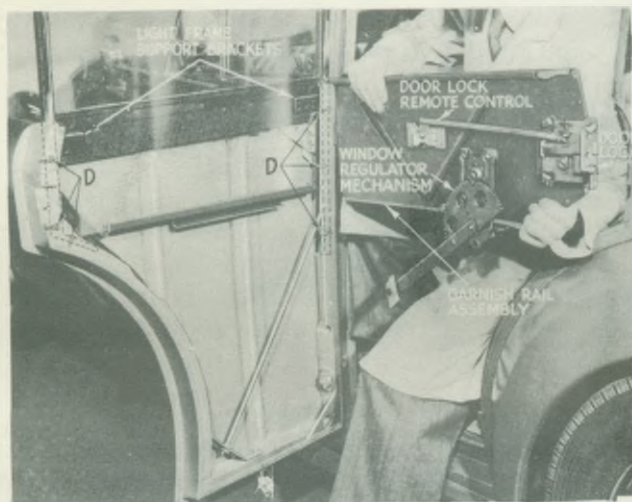

Fig. 22. Garnish rail assembly removed showing its top channel which hooks over the tops of the two door side frames
7. Garnish rail complete with door lock and window regulator mechanism as shown in Fig. 22. (Retaining screws shown in Fig. 21.)
8. Remove the screws positioned at 'D' in Fig. 22, in the bottom of both vertical glass channels, which are accessible when the felts are peeled out from the bottom of the frame channels with the glass in the 'up' position. Also with the glass in this position, remove the screws in both light frame support
brackets, also shown in Fig. 22. A certain amount of force is necessary when removing light frame to ease it past the chrome fence rail.